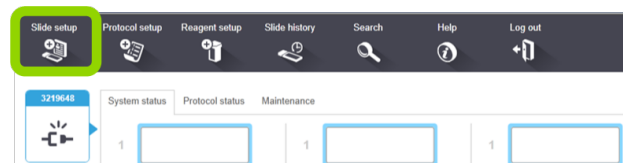

Figure 17: Slide setup icon
1. Click the **Slide setup** icon (see Figure 17).